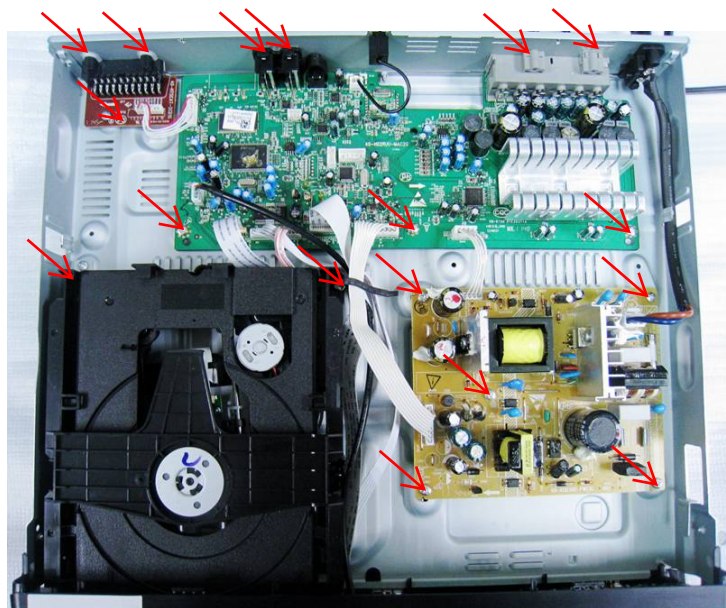

Figure 5
**Step5**: Dismantle Loader, disconnect the 3 connectors (XP9, XP2, XP8) aiming in the below figure, and remove 2 screws that connects the loader and the bottom cabinet. (Figure 5)
Step6: Dismantle Main Board, first disconnect 1 connector (XP36), and then remove 7 screws. (Figure 5/6)
Step7: Dismantle Power Board, disconnect the connectors XP3 and XS703 ,then remove 5 screws.(Figure 5/6)
Step8: Dismantle AV Board, first disconnect 1 connector(XP11),and then remove 3 screws (Figure 5/6)